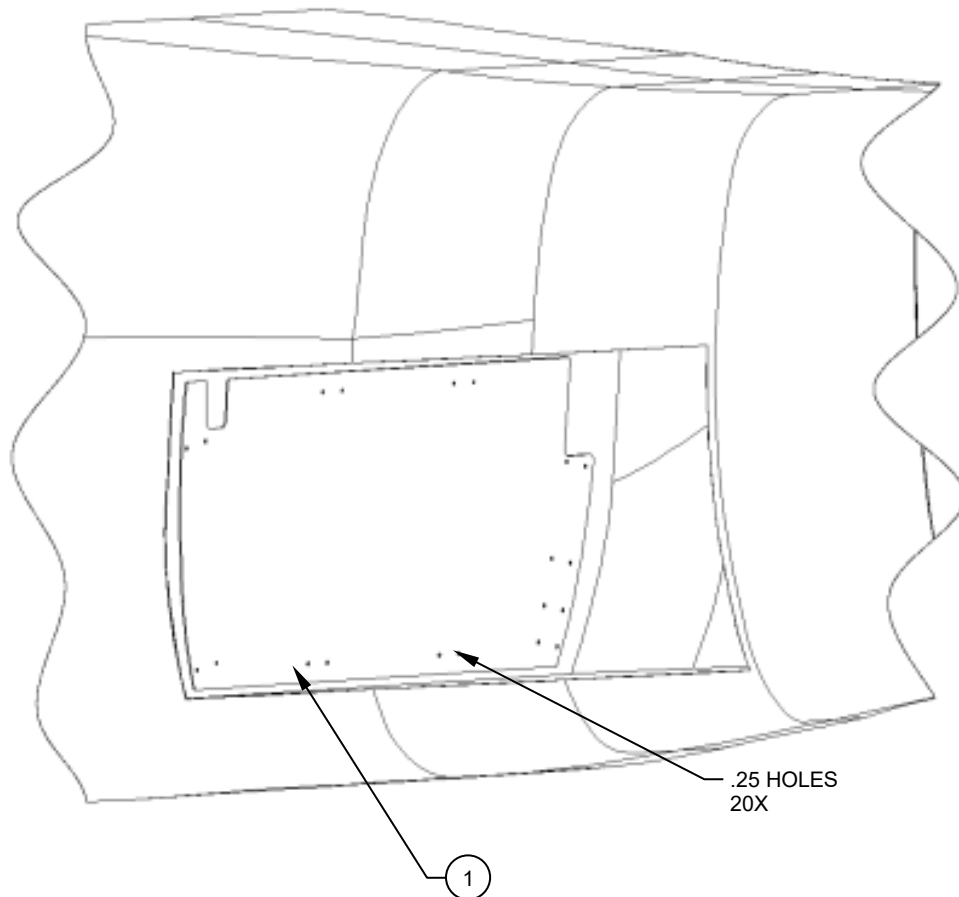

**Figure 1**
1. Gain access to the baggage compartment bulkhead. Reference Figure 1.